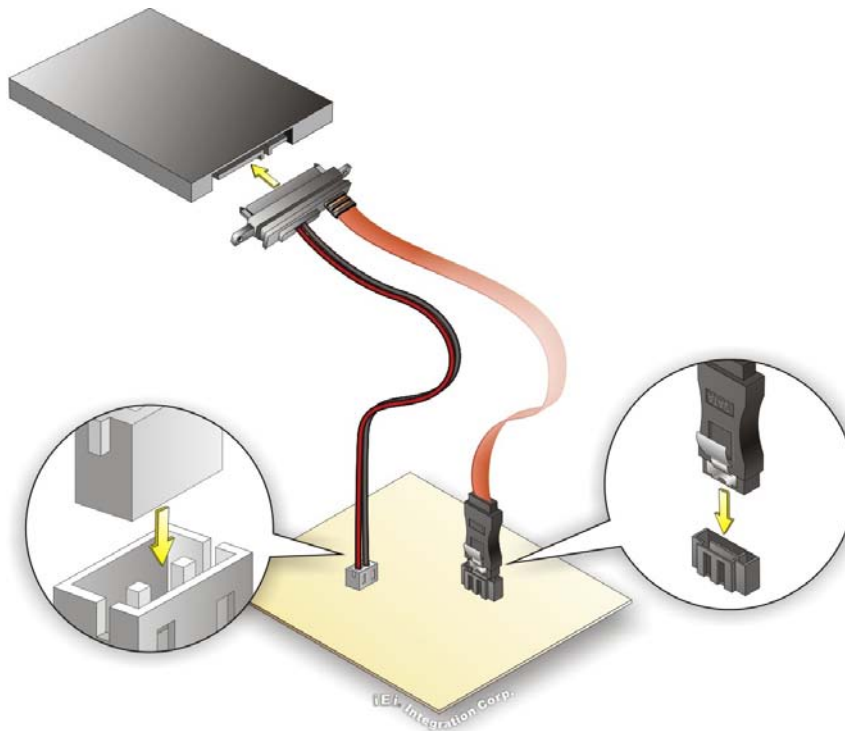

Figure 4-3: SATA Drive Cable Connection
Step 2: Insert the cable connector. Insert the cable connector into the on-board SATA drive connector and the SATA power connector. See **Figure 4-3**.
Step 3: Connect the cable to the SATA disk. Connect the connector on the other end of the cable to the connector at the back of the SATA drive. See **Figure 4-3**.